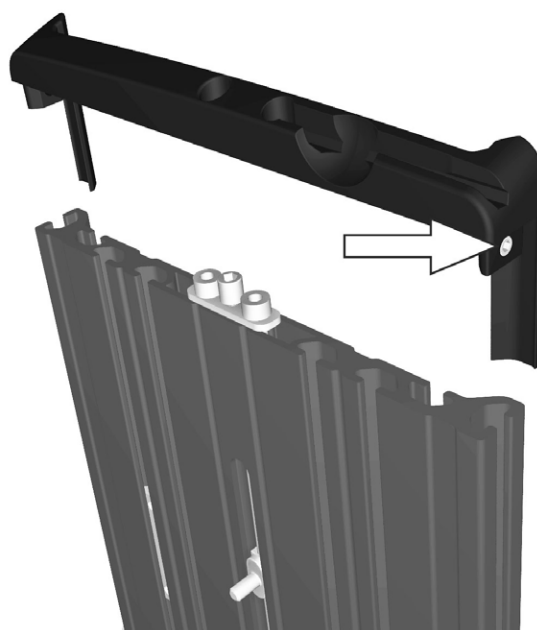

Figure 202. The end cover of the backrest profile is secured using one screw on the left side and one on the right.
4. Reassemble the end cover of the backrest profile by pushing it straight into the end of the profile. Secure the cover by tightening the screws on the left and right. See fig. 202.